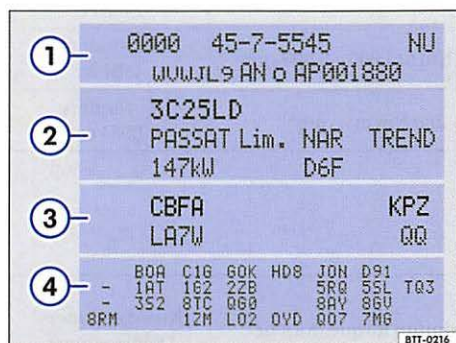

Fig. 10 Vehicle identification label: shown in the example with engine classification code BLF (3).
The vehicle identification label ⇒ fig. 10 is affixed in the area of the spare wheel well in the luggage compartment and contains the following information: ▶
- ① Vehicle identification number (VIN)
- ② Vehicle type, engine rating, transmission
- ③ Engine and transmission classification codes, paint number, interior. In the example, the engine classification code is "CBFA" ⇒ page 31, fig. 10.
- ④ Optional equipment, part numbers